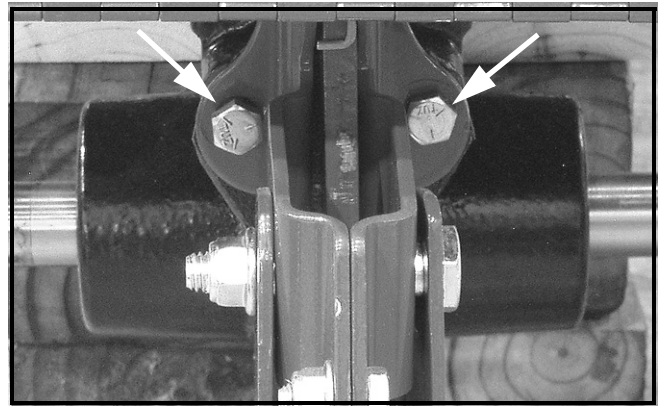

FIGURE 4
11. Using a 1/2" socket, short extension and a ratchet, remove the two 5/16" x .75 screws securing the left and right tail brackets to the rear of the transmission. See Figure 4.